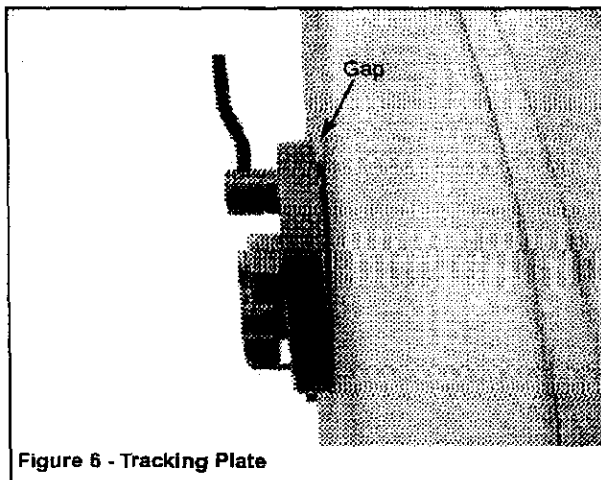

Figure 6 - Tracking Plate
- Most of the time tracking plate should be tilted to the desired degree as shown in Figure 6 (top of tracking plate should be pulled away from cabinet wall, while bottom part of tracking plate should be touching cabinet wall).